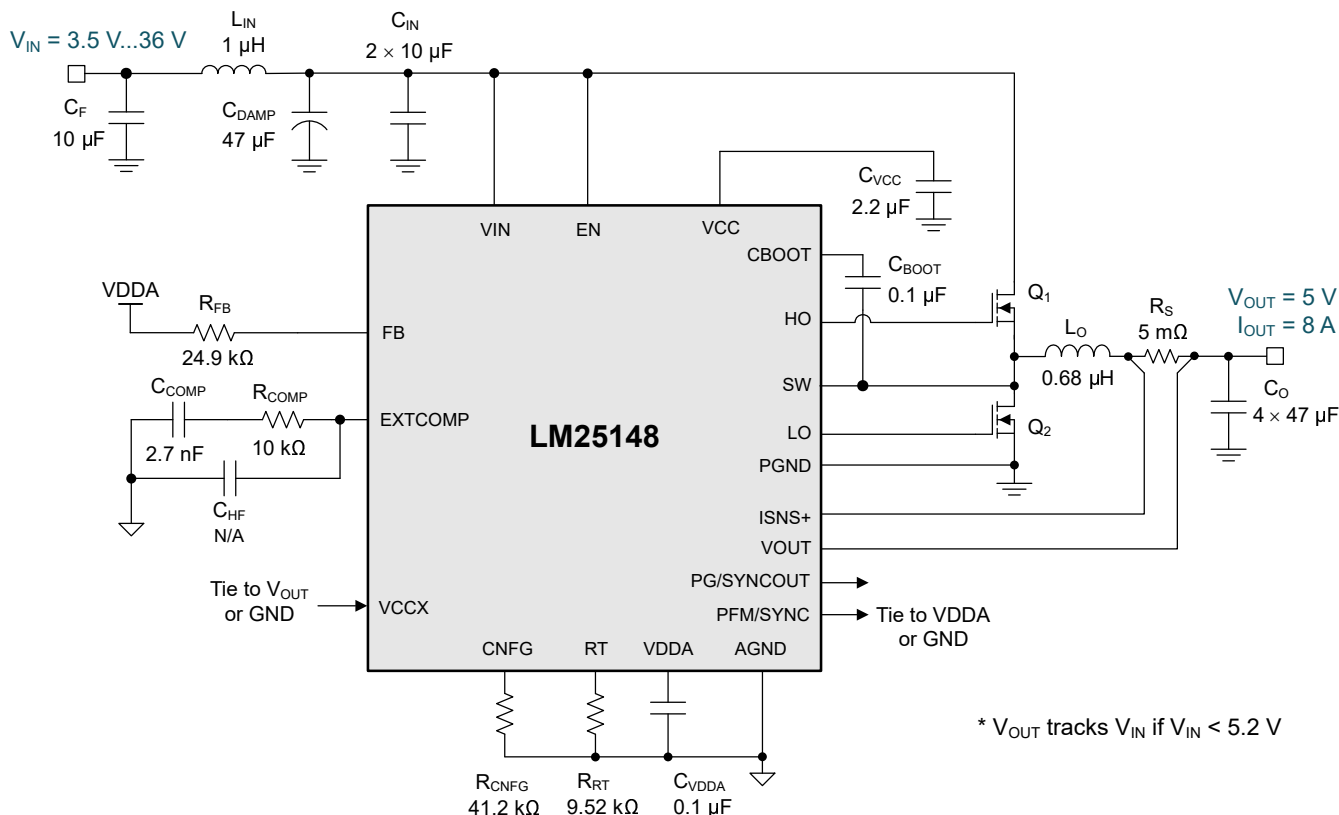

**Figure 9-3. Error Amplifier and Compensation Network**
Figure 9-3 shows a type-II compensator using a transconductance error amplifier (EA). The dominant pole of the EA open-loop gain is set by the EA output resistance,  $R_{O-EA}$ , and effective bandwidth-limiting capacitance,  $C_{BW}$ , as shown by Equation 25.